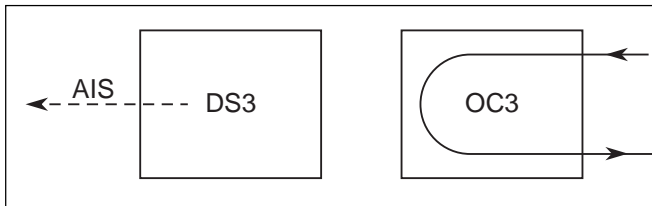

Figure 9. OC-3 Line Loopback
1. **OC-3 Line Loop** – Provides a loopback in the OC-3 interface for data being sent into the OC-3 interface. During this test, an Alarm Indication Signal (AIS) is sent all three DS3 interfaces. See **Figure 9**.